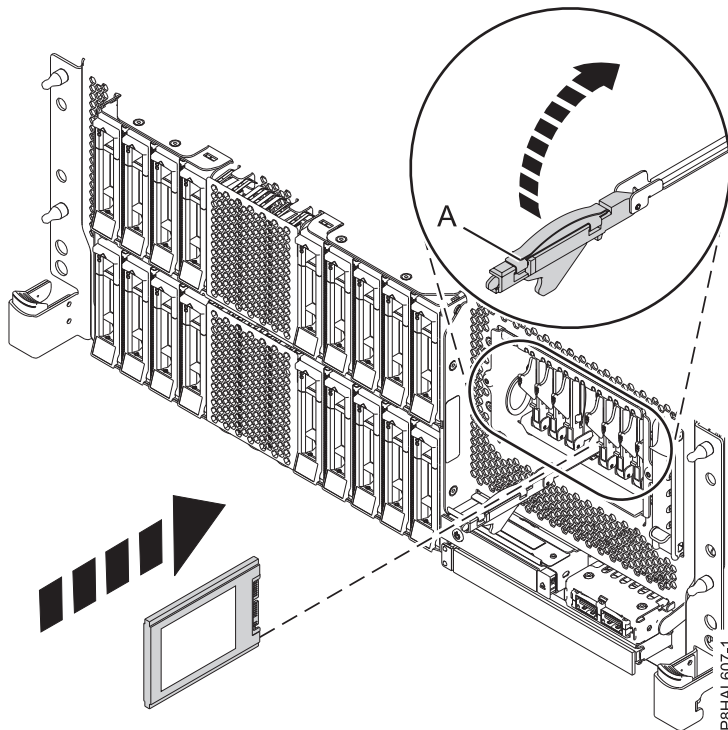
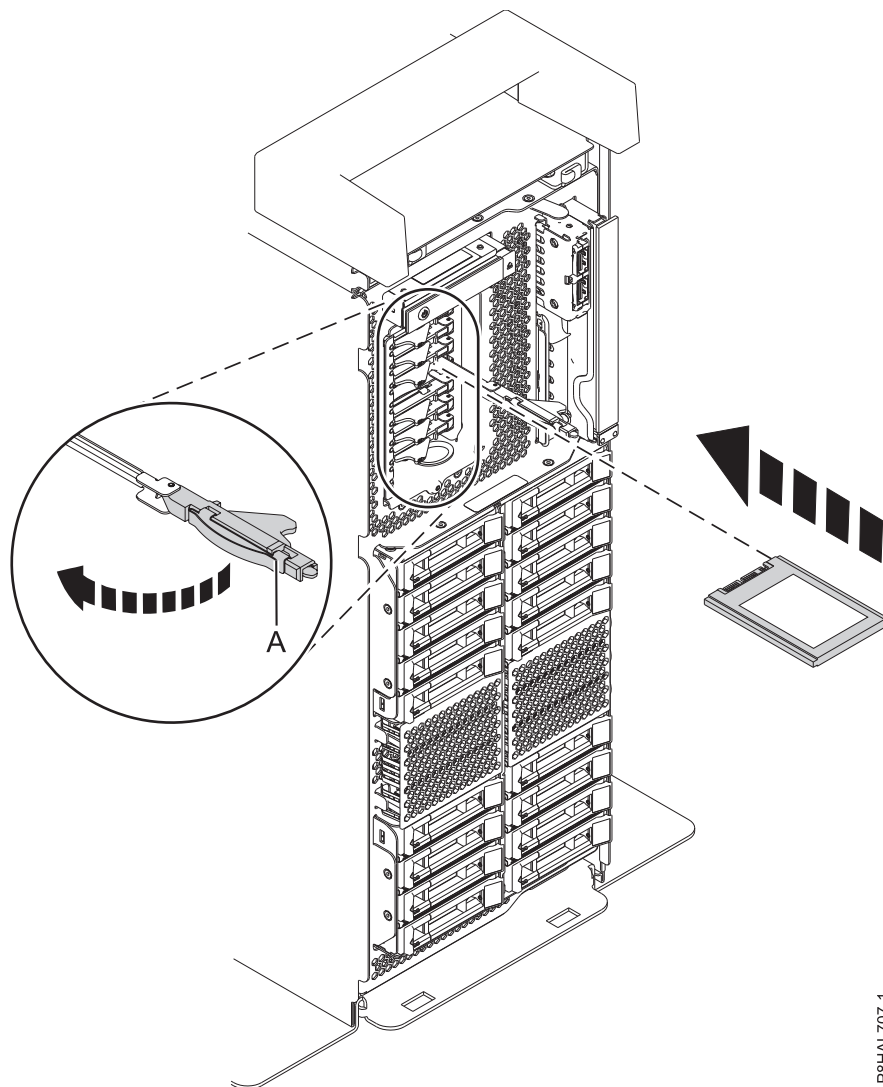

Figure 50. Installing an SSD in a rack-mounted expanded function 8286-41A or 8286-42A system
Figure 51. Installing an SSD in a stand-alone expanded function system
14. With the SSD drive bay handle (A) in the unlocked position, pull the lever outward to gain access to the guide rails in the SSD slot. Support the bottom of the SSD as you align it with the guide rails in the SSD slot. See Figure 50 and Figure 51 on page 55.
18. Lock the drive by rotating the bay handle (A) in the direction that is shown in Figure 50 and Figure 51 on page 55.